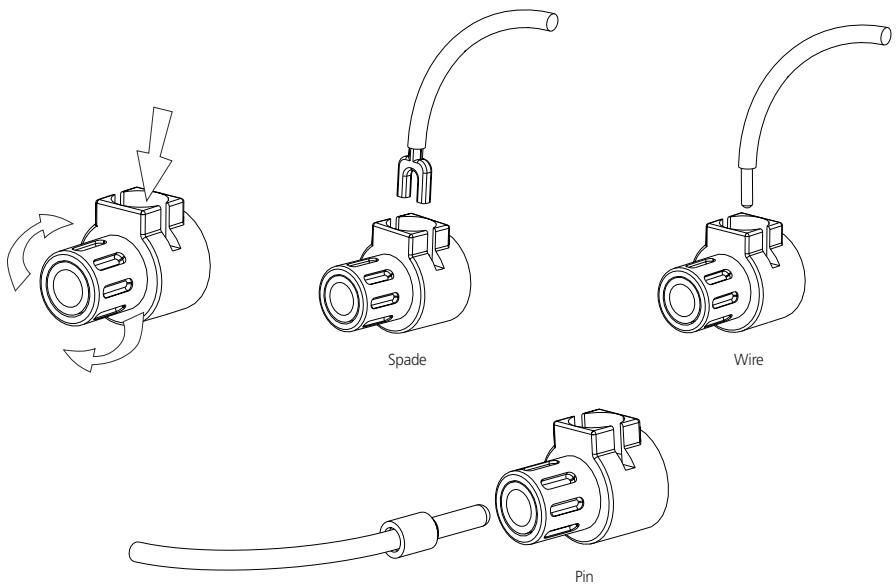

Figure 2
Connect the wires from one of your speakers to the "+" and "-" terminals on the rear panel of the NAD CI-series amplifier. In each channel, the red terminal is the positive "+" output, and the black terminal is the negative "-" or "ground" terminal (see Figure 2).
- 1** Pin connectors: A pin connector is a slim metal shaft that is crimped or soldered onto the end of a wire. The threaded shaft of each binding post contains an opening that accepts pin connectors up to 3mm in diameter. Unscrew the plastic bushing on each terminal to expose the hole in the metal shaft. Insert the pin connector through the hole, and turn the bushing clockwise until it is tight (see Figure 2).
- 2** Spade lugs: Unscrew the plastic bushing, insert the U-shaped spade lug into the oblong gap and tighten the bushing down on it (see Figure 2).
- 3** Bare wires: Separate the two conductors of the cord (if they are supplied as a pair), and strip off a half-inch (1cm) of insulation from each. In each conductor, twist together the exposed wire strands. Unscrew the plastic bushings for "+" and "-", insert the bare wire through the hole in the metal shaft, and tighten the plastic bushing until it grasps the wire securely (see Figure 2). Check to be sure that no loose strand of wire is touching the chassis or an adjacent terminal. **Re-tighten the bushing after a week or so to make sure that any play that may have developed is eliminated.**